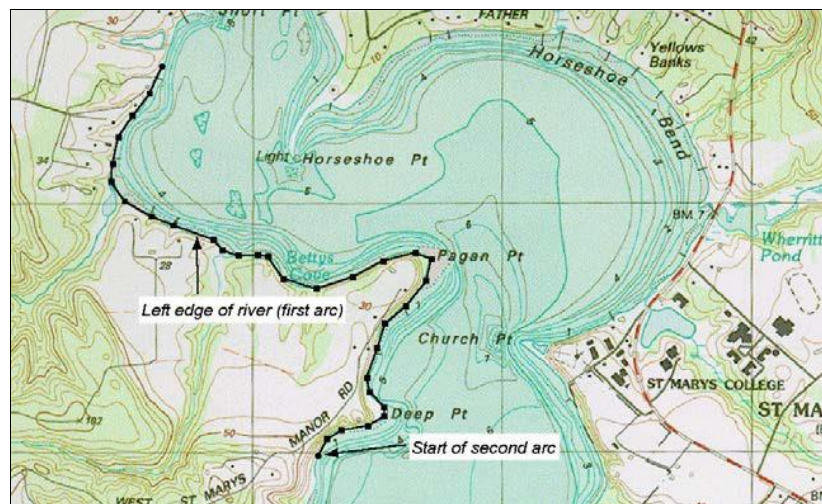

Figure 8 Creation of the first feature arc
3. Click out the left riverbank, as shown in Figure 8 (if necessary, use the **Zoom**  tool to get a closer view). While creating the arc, if a mistake happens and there is a need to back up, press the *Backspace* key. If there is a need to abort the arc and start over, press the *Esc* key.